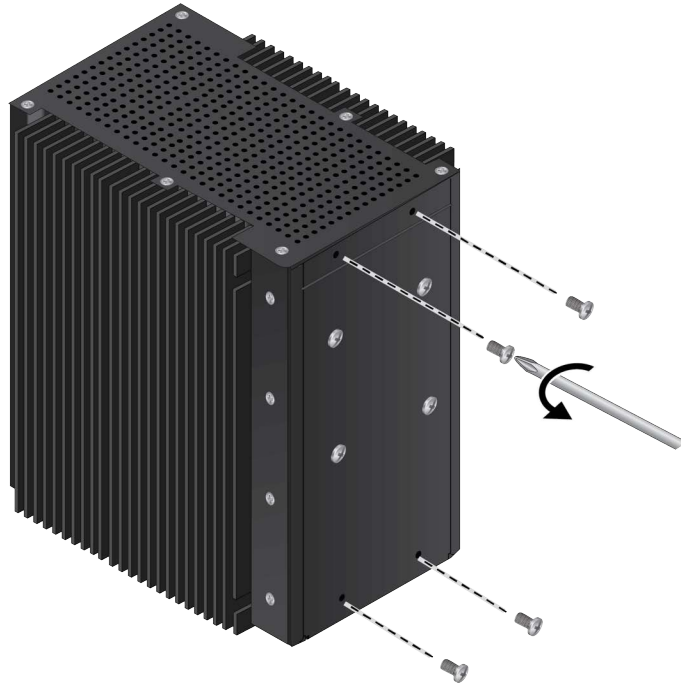

Figure 35. Removing the Four Screws from the Rear Panel
4. Remove the four screws from the top and bottom of the rear panel of the switch. Refer to Figure 35.
4. Remove the four screws from the top and bottom of the rear panel. Refer to Figure 35 on page 86.